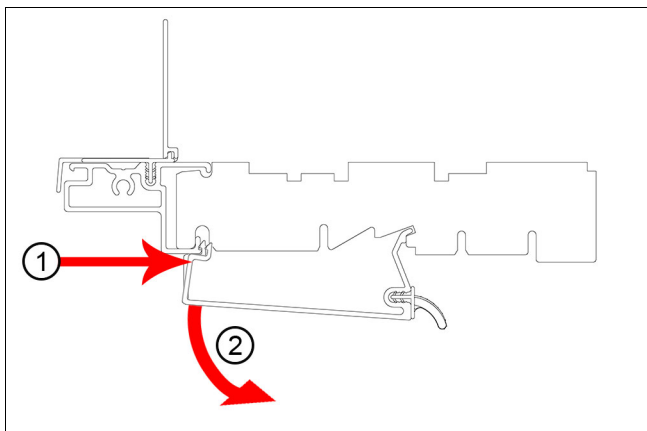
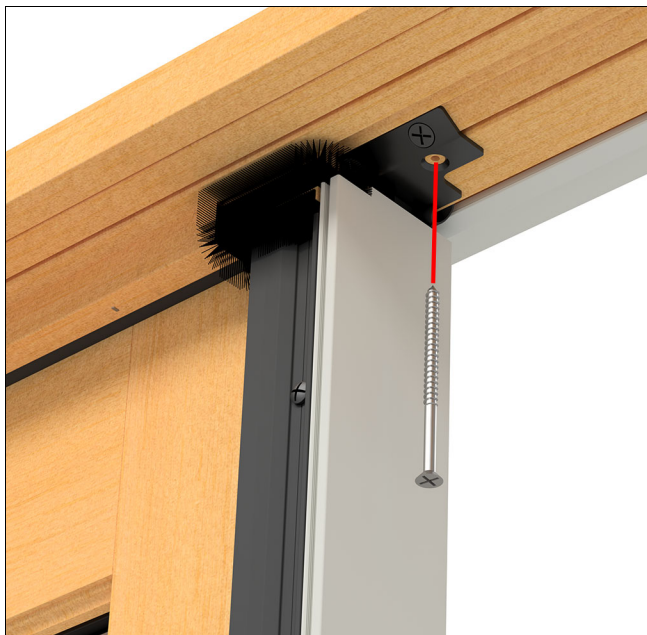

Figure 32
Figure 33
12. On 1 3/4" IZ units and 1 3/4" HP units: remove the head jamb screen track, backing out the #7 self tapping screws (set aside for re-installation later) See Figure 31. Remove the aluminum head jamb cover to reveal the exterior stationary panel head jamb bracket. See Figure 32. Using the hole in the bracket as a guide, pre-drill with a 1/8" bit through the frame and into the RO framing. Shim and drive a #10 x 3" flat head screw through the bracket and into the rough opening. See Figure 33.